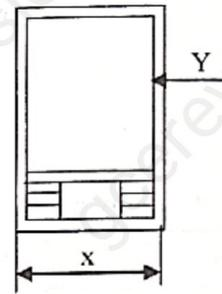

Figure 4
Questions 6 and 7 refer to figure 4 below
6. The dimension indicated as x on the A4 paper shown in figure 4 above has a value of
7. Indicate what Y signifies in the drawing paper in figure 4 above.